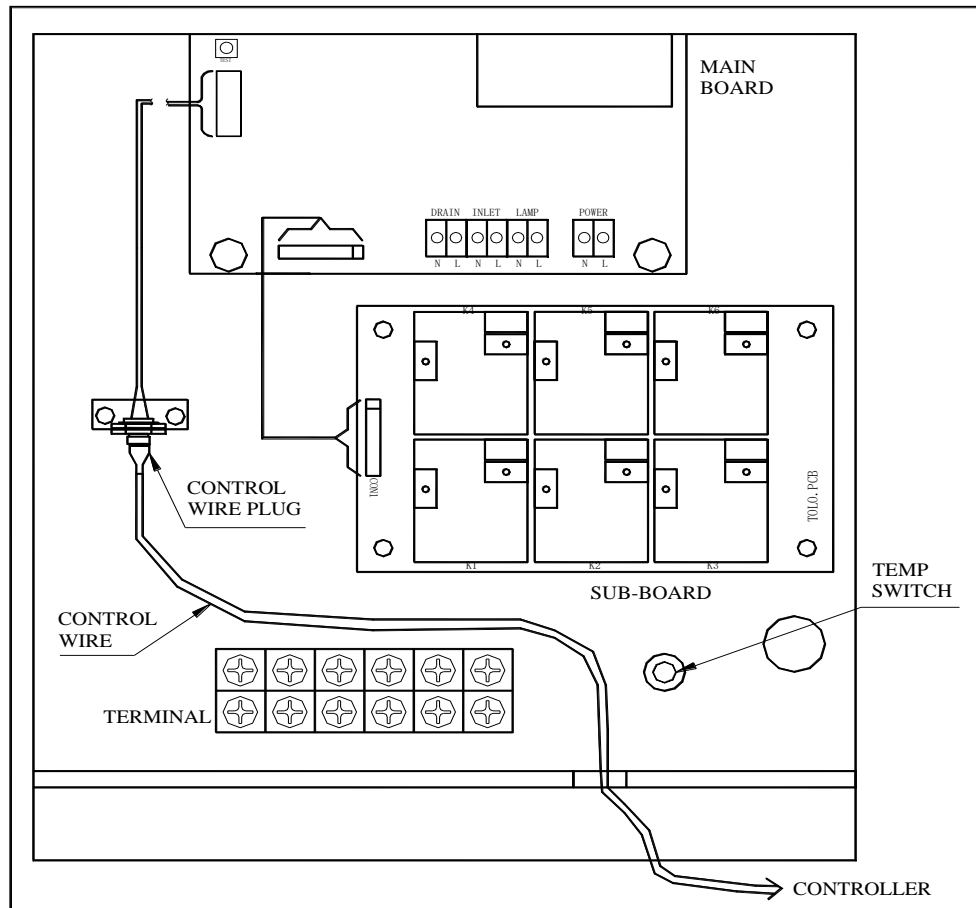

Figure 8
- A manual resetting 120C temperature control switch is installed in the steam generator for over-heat protection. If temperature of inner tank exceeds 120C accidentally, the switch will automatically disconnect power supply to mainboard. In this case, it is necessary to disconnect the power supply to steam generator, and then carefully check heating elements, relay on sub-board and water supply pipeline after steam generator completely cooling-down. The temperature switch could only be manually reset after the fault has been located and solved. The temperature control switch is as shown in figure 8.
Take off the back cover of the generator, pull the control wire at the back of the controller through a conduit and then insert it into the hole at the back of the generator case and connect to the plug. (Refer to figure 8).